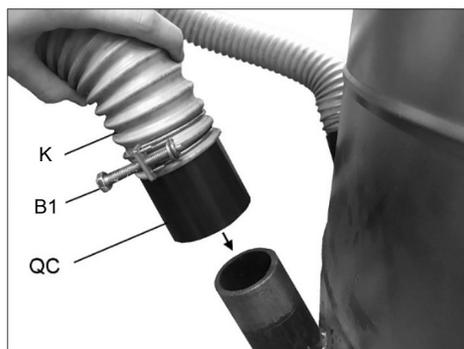

Figure 5-12
29. Connect free ends of hoses (K) to quick connectors (QC) using hose clamps (B1). See Figure 5-12. Push connectors onto lower drum ports.